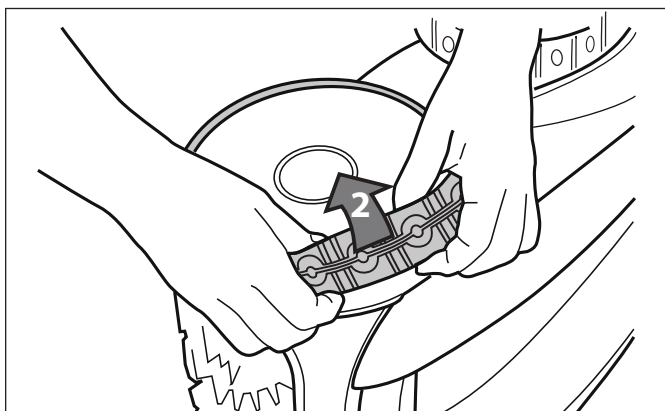

Figure 36. Remove the Old Tire
2. Remove the old tire as shown in Figure 36.